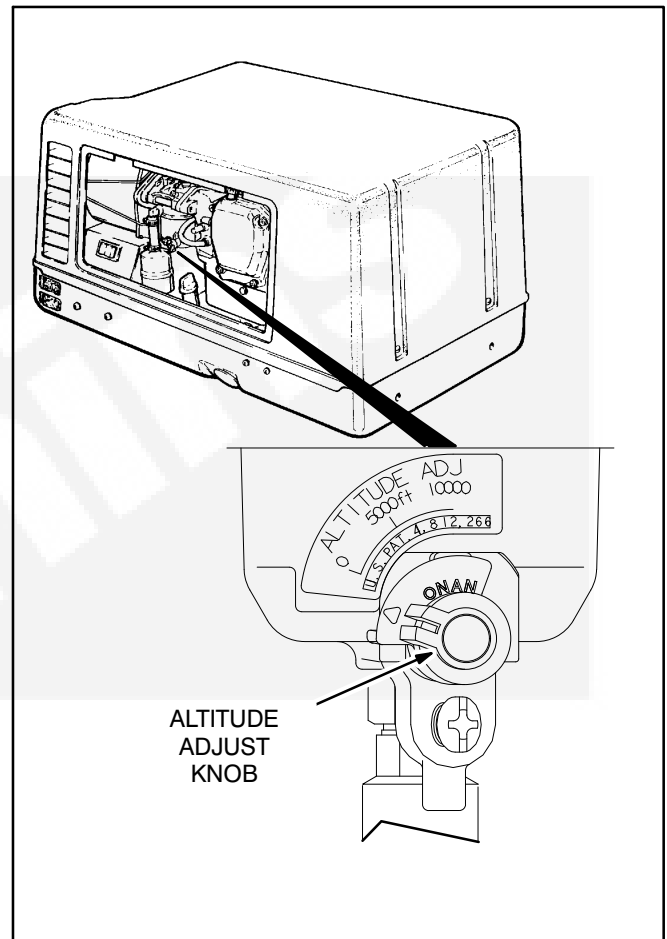

FIGURE 8. ALTITUDE ADJUST KNOB
2. Reset the carburetor (gasoline models only) for altitude (Figure 8).
5. Reset the carburetor (gasoline models only) for altitude (Figure 8).
For best fuel economy and genset operation reset the carburetor for the current altitude (Figure 8). Look at road maps and road signs. For the effect of altitude on maximum power, see LOADING THE GENSET (Page 12).